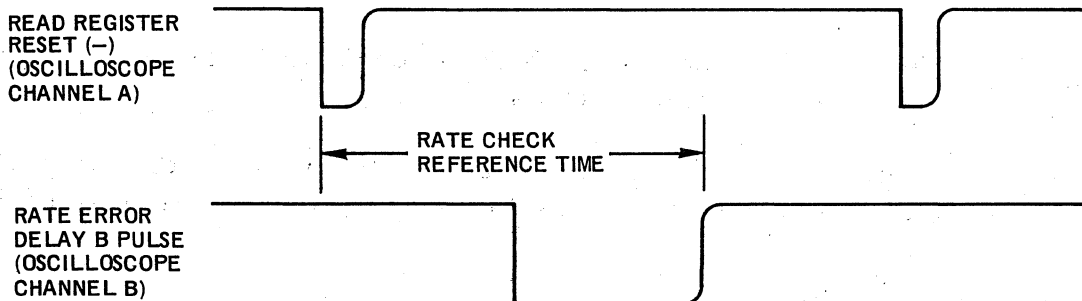

Figure 5-7
- Step 11: Adjust potentiometer R12 on B12 to obtain a rate check reference time of 11 μ sec* between the leading edge of the Read Register Reset (-) signal and the trailing edge of the following rate error delay B pulse, as indicated on the oscilloscope. The timing relationship of the two signals is shown in Figure 5-7. This completes the rate check reference time adjustment.